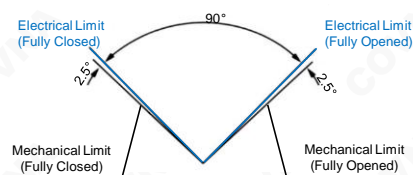

Figure 10
Figure 10 shows the position relationship between electrical limit and mechanical limit.
2. Adjustment of actuator (Figure 10)